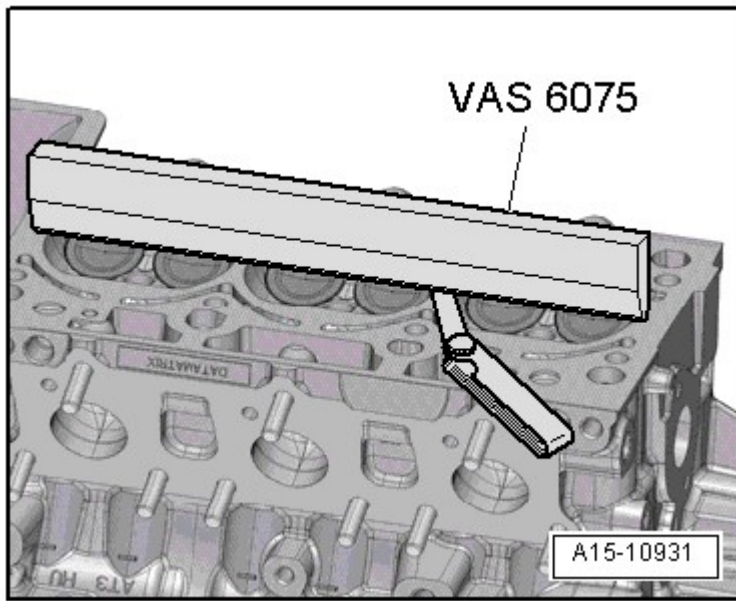

Fig. 8: Checking Cylinder Head Distortion
- Check for distortion, refer to **Fig. 8**